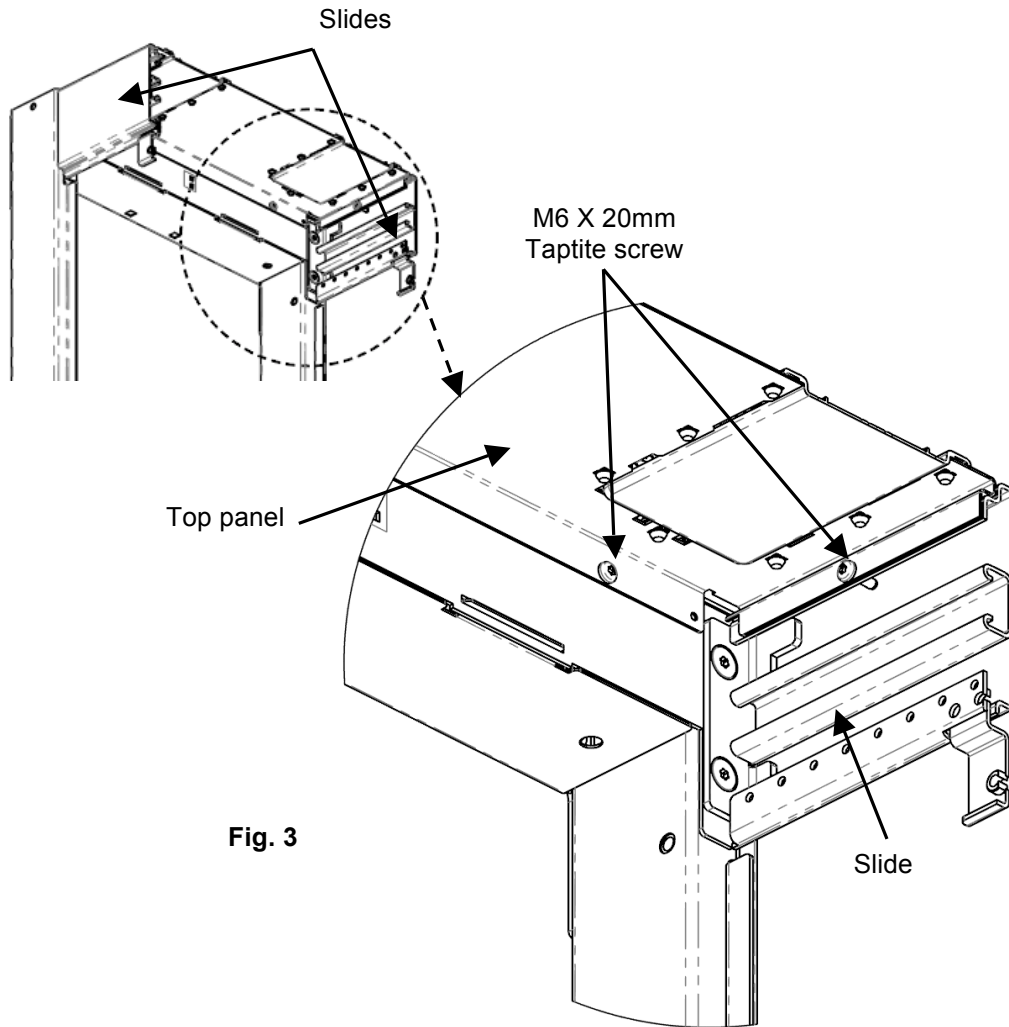

Fig. 3
4. To remove top panel, loosen all taptite screw. Lift top panel off from cabinet (Fig. 3).